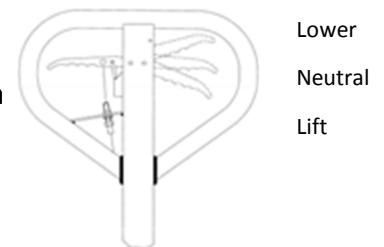

Fig. 9: Lever ACX1OE
If necessary, you can adjust the lever according to following steps (Fig. 9):
- If the forks do not descent when the control handle is in the **Lower** position, turn the adjusting nut clockwise until raising the control handle lowers the forks. Then check the **Neutral** position according to fig. 9 and be sure that the adjusting nut is in the proper position.